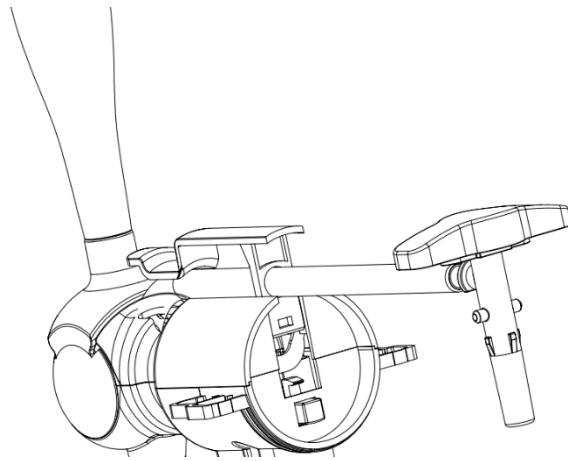

Figure 17
1. Press and hold the button under the back of the tap, and the beer tube assembly and the detachable top cover of the tap will pop open automatically together (as shown in Figure 17).